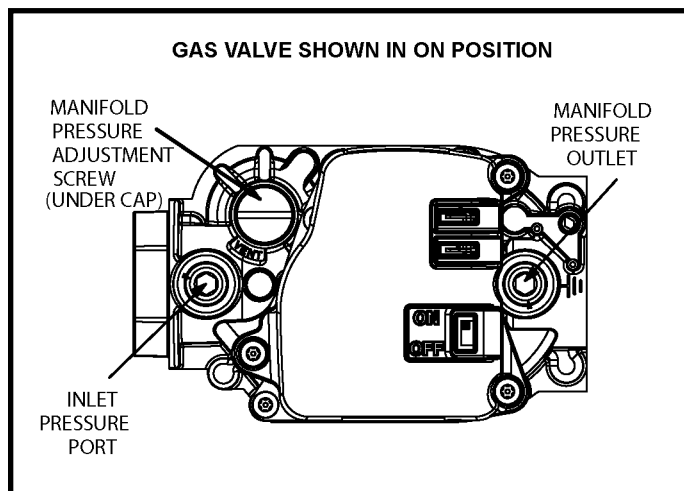

Figure 65
Gas Valve Operation (Figure 65)
6. Move gas valve switch to **OFF**. See Figure 65.
8. Move gas valve switch to **ON**. See Figure 65.
When testing supply gas pressure, use the 1/8" N.P.T. plugged tap or pressure post located on the gas valve to facilitate test gauge connection. See Figure 65. Check gas line pressure with unit firing at maximum rate. Low pressure may result in erratic operation or underfire. High pressure can result in permanent damage to gas valve or overfire.